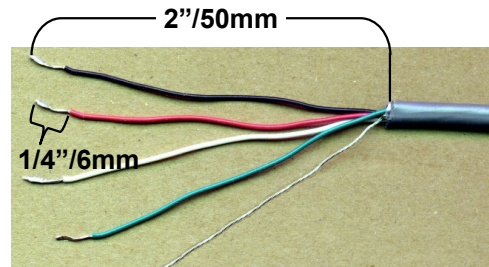

Figure No. 4
3. Remove 2" (50mm) of the outer insulation jacket, then remove 1/4" (6mm) of insulation from each of the 4 wires and shield (without sense leads) or 6 wires and shield (with sense leads). Refer to Figure No. 4.
3. Remove 2" (50mm) of the outer insulation jacket then remove 1/4" (6mm) of insulation from each of the wires (refer to Figure No. 4).